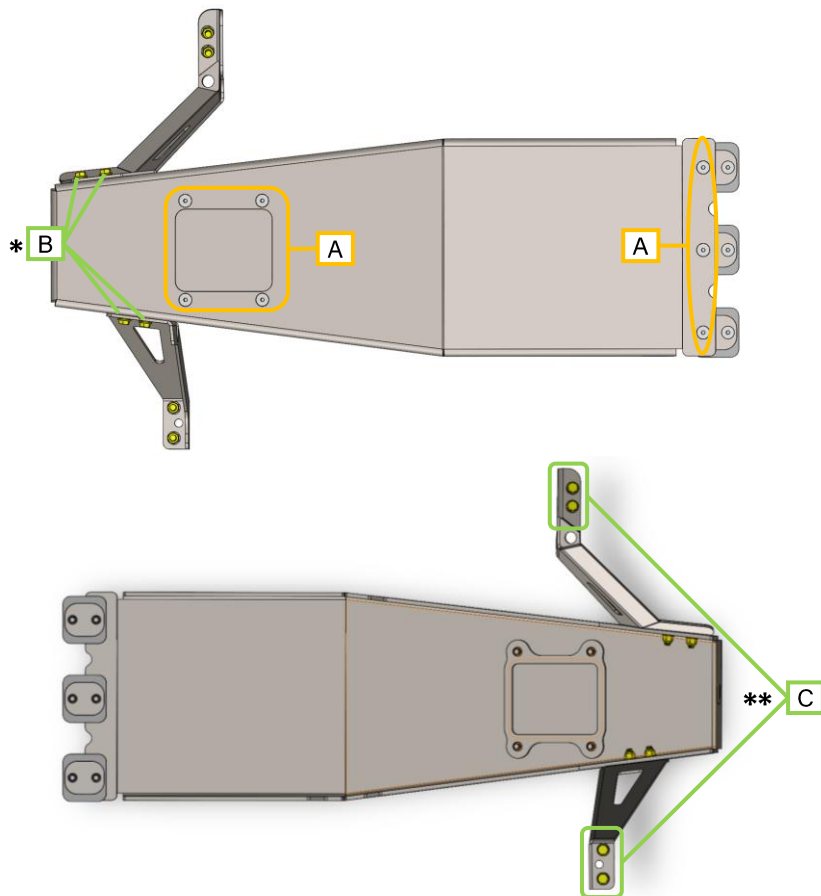

Figure 44: bolt callouts on engine skid plate
37. Proceed with Table 3 while referencing Figure 44. Tighten the engine skid plate hardware to the following specification. **Pay attention to the * notes at the bottom of the page.**